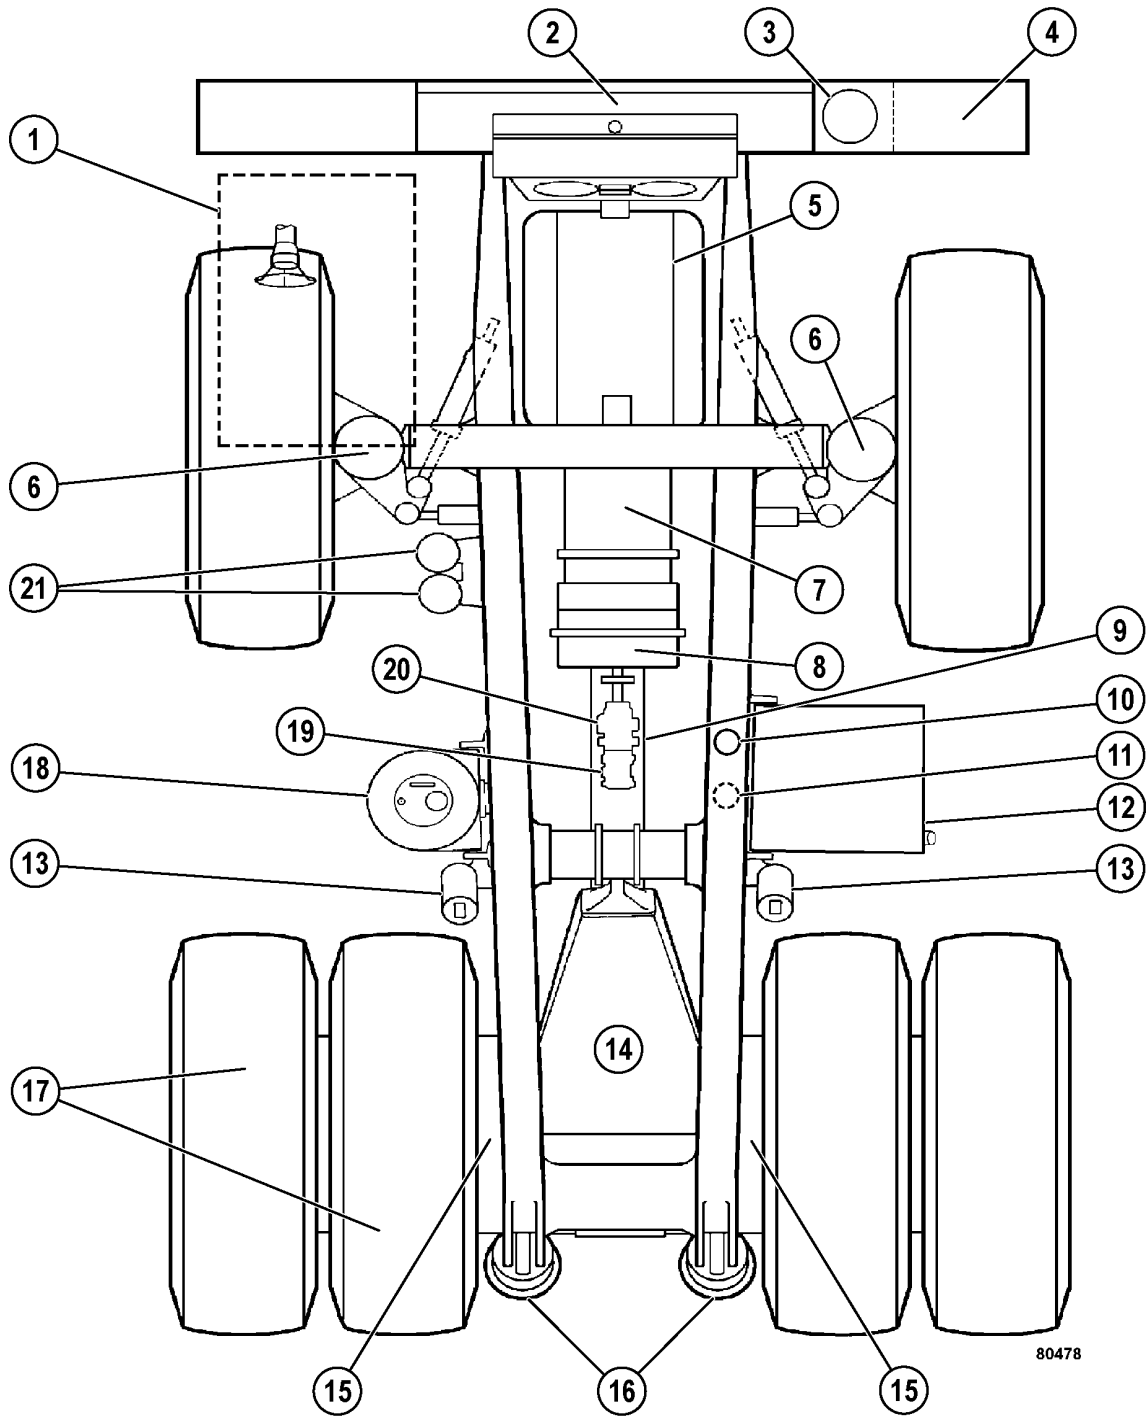

FIGURE 3-3. COMPONENT LOCATION
8. Move behind the rear of the front wheel. Ensure the suspension protective boot is in good condition. Verify all suspension (6, Figure 3-3) attaching hardware bolts are completely tightened. Inspect the mounting key area for evidence of wear. Verify the suspension extension (exposed piston rod) is correct. Check for leaks.
Inspect the hoist cylinder (13, Figure 3-3) for any damage or hydraulic oil leaks. Verify the lower guard is in place. Ensure both the upper and lower hoist cylinder pins are properly tightened and greased.
Move around the cab (1, Figure 3-3) to the back.